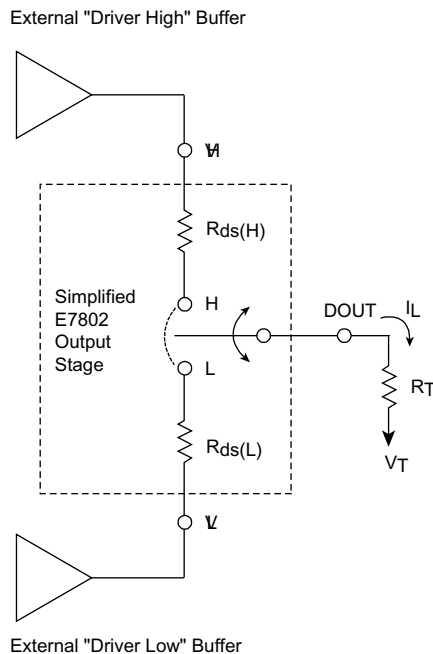

Figure 4. Simplified Functional Schematic of E7802 Output Stage and External Buffers
In addition to the VCC and VEE power supply levels, the "driver high" (VH) and "driver low" (VL) levels used in an application also have an effect on the total power dissipation of the device illustrated using Figure 4.
The CMOS switches of the E7802's output stage have on-resistance values (depicted by $R_{ds(H)}$ and $R_{ds(L)}$ in Figure 4) that vary as a function of V_H and V_L voltage levels. The amount of current required by the load impedance, R_T , is also a function of the V_H and V_L voltage levels as follows: